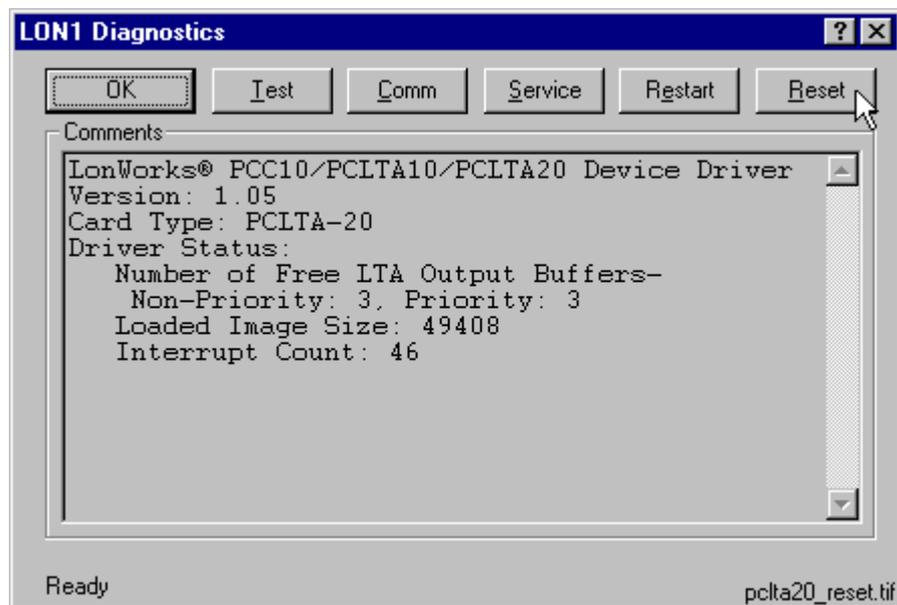

Fig. 4.6.6.2.-4 Some basic diagnostics information available indicating that the device driver has started and can be configured
15. On the LonWorks® Plug'n Play control panel (Figure 4.6.6.2.-2 above), click the Diagnostics... button to open the Diagnostics dialog box shown below.